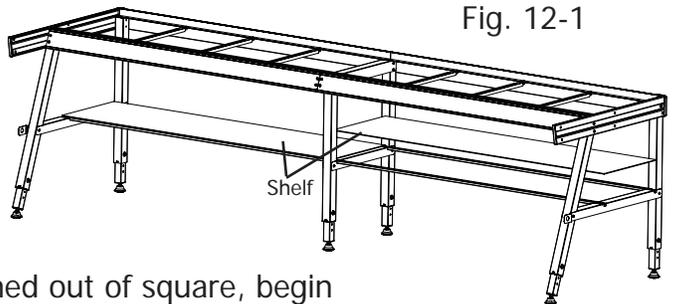

Fig. 12-1
**12-1:** Attach the plastic shelf, **with the textured surface side UP**, to the shelf braces using the pre-installed double sided tape, as shown in Fig. 12-1.